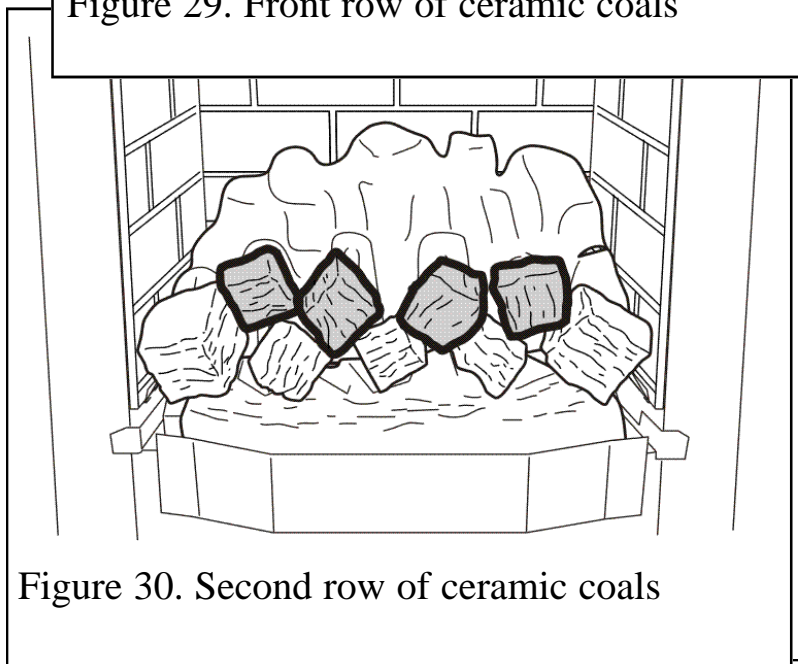

Figure 30. Second row of ceramic coals
5. Locate four small ceramic coals into the spaces on top of the first row of ceramic coals (See figure 30).